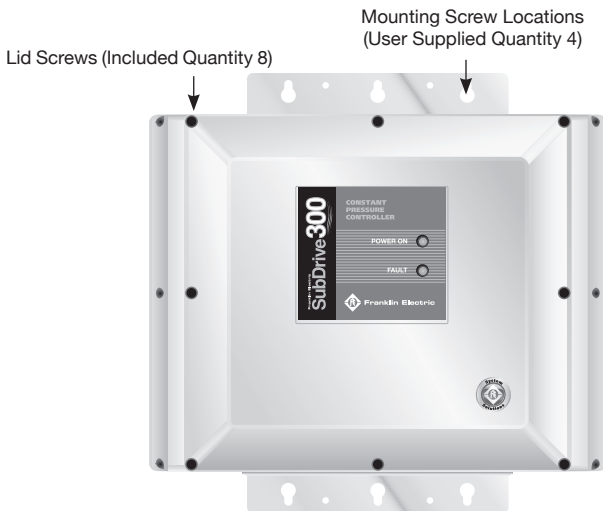

Figure 1: Mounting Screws
4. Install the unit to the wall using four mounting screws (not included) as shown in Figure 1 below. Remove the SubDrive lid by removing the eight lid screws.